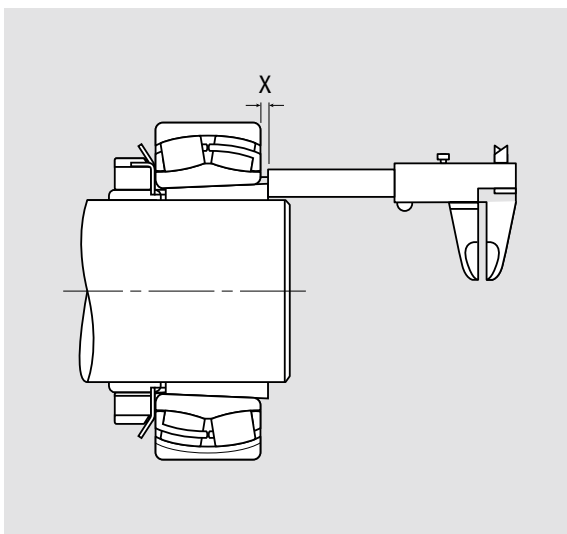

Fig. 3
5. Measure dimension 'X' as shown in **Fig. 3**.